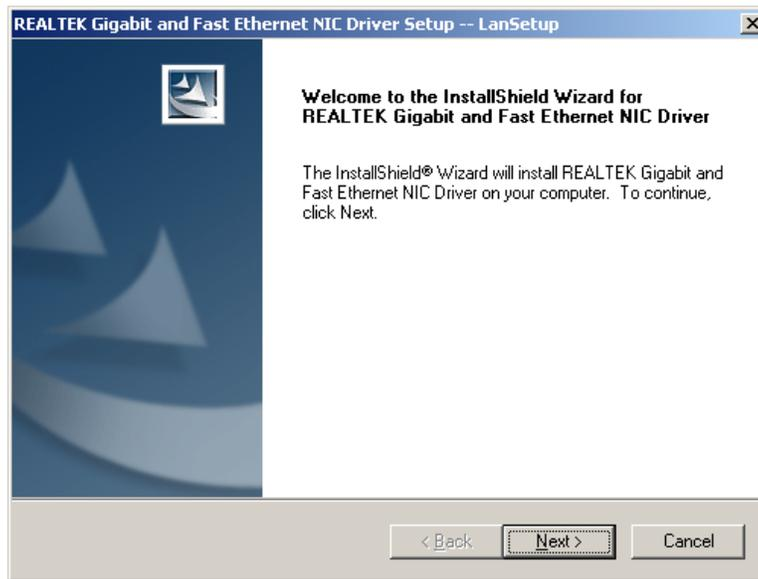

Figure 6-27: Install Wizard Welcome Screen
Step 8: Once initialized, the **Install Wizard** welcome screen appears. See **Figure 6-27**.